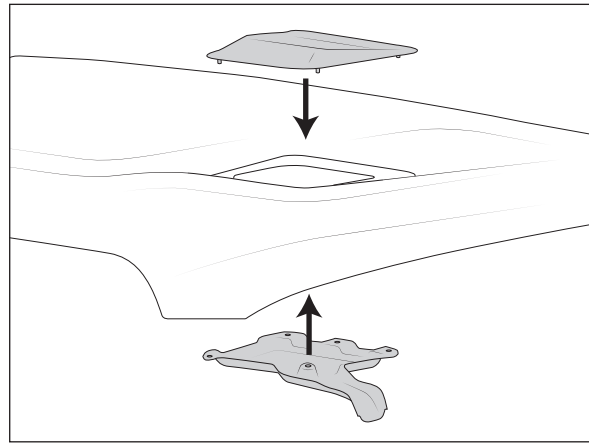

Figure 8
3. Install the water trays on the underside of the hood over the bezel studs (fig. 8).